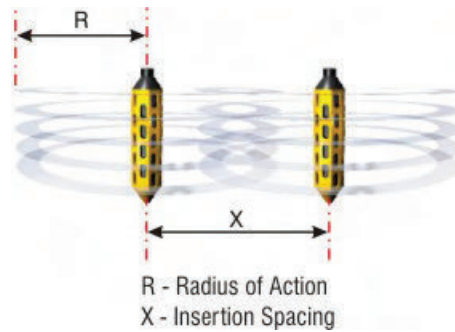

Figure 8.5 – Radius of action of concrete vibrator
- Move vibrator and re-insert at a distance 1.5 times the radius of action as shown in figures 8.5 and 8.6 below.